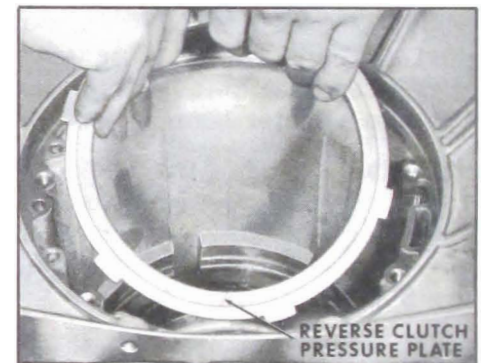

Figure 5-295
9. Install reverse clutch pressure plate with the identification mark being installed in the 5 o'clock groove in case. See Figure 5-295.